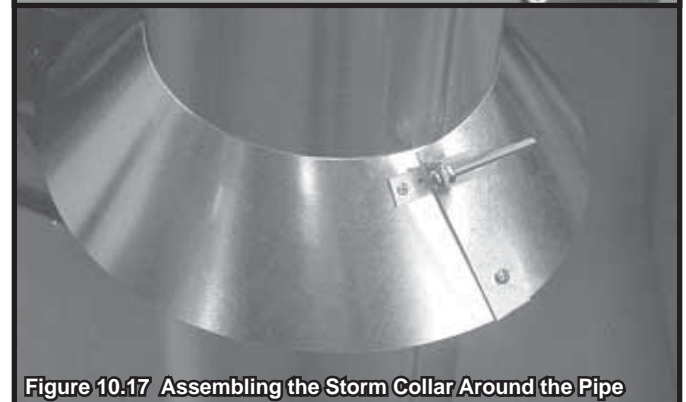

Figure 10.17 Assembling the Storm Collar Around the Pipe
- Slide the assembled storm collar down the pipe section until it rests on the roof flashing (see Figure 10.17).